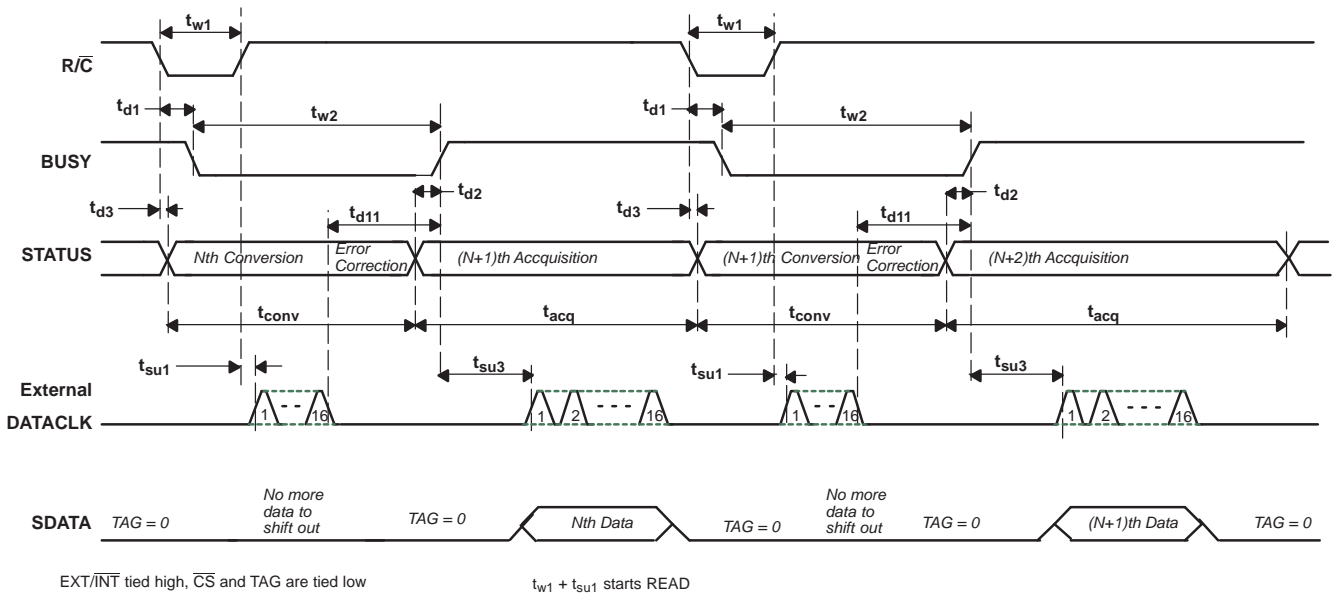

Figure 37. Basic Conversion Timing - External DATACLK
(1) See Figure 37, Figure 38, and Figure 39 for constraints on data valid from conversion  $N-1$ .